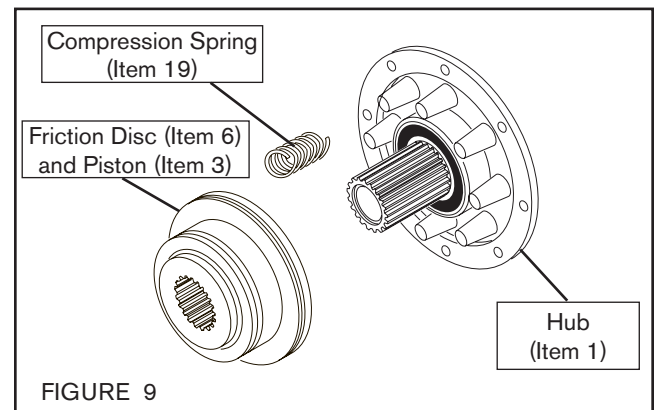

FIGURE 9
1. Slide Friction Disc (Item 6) and Piston (Item 3) off Hub (Item 1) (See Figure 9).
Inspect Compression Springs (Item 19) for signs of wear or fatigue. Replace springs if worn or if signs of fatigue exits (See Figure 9).